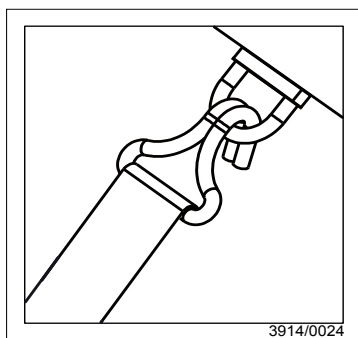

Fig. 59
- Attachment point for transportation on a trailer/truck (Fig.59)